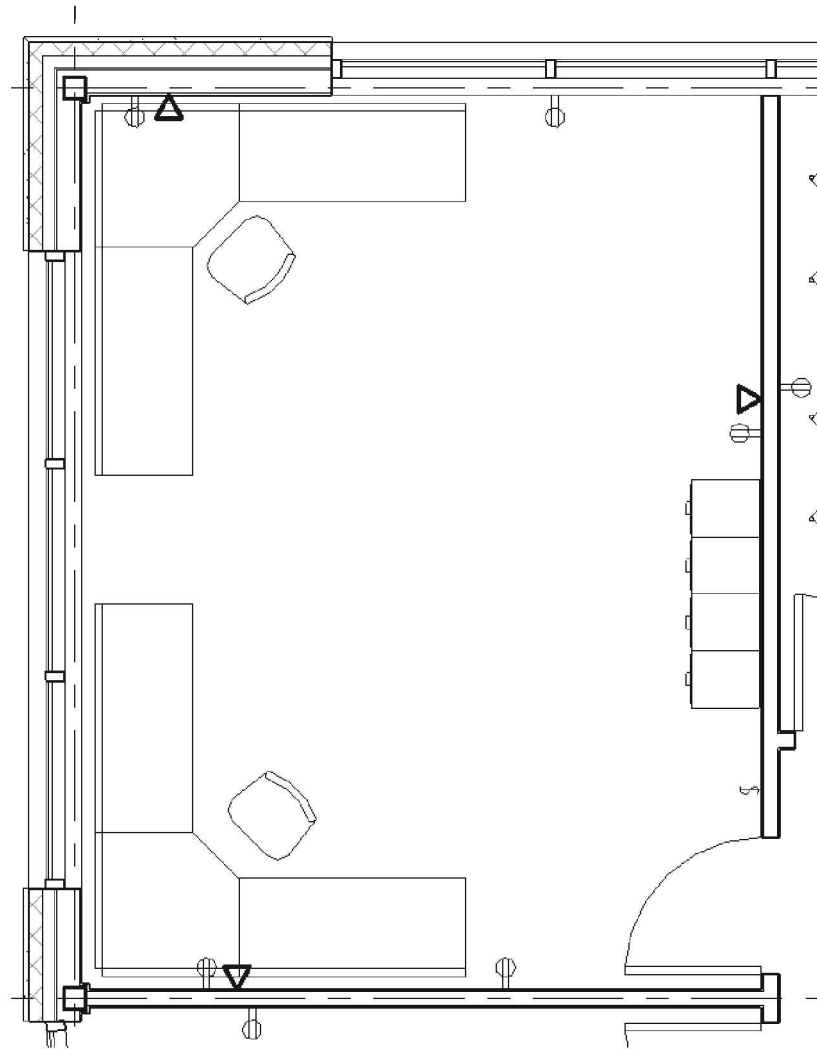

FIGURE 14-5.2 Three data outlets placed on walls
9. With **Place on Vertical Face** selected on the *Placement* panel, add the three *data outlets* as shown in Figure 14-5.2.